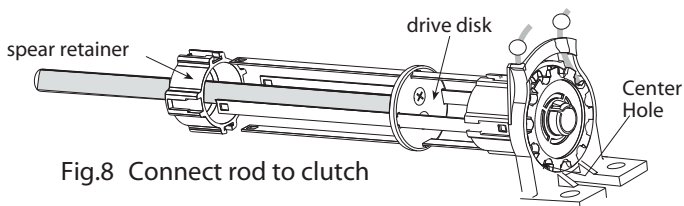

Fig.8 Connect rod to clutch
Step 6. Slide spears thru the drive disk (see Fig.8). Insert the spears in the grooves on the spear retainer all the way until they are locked in.